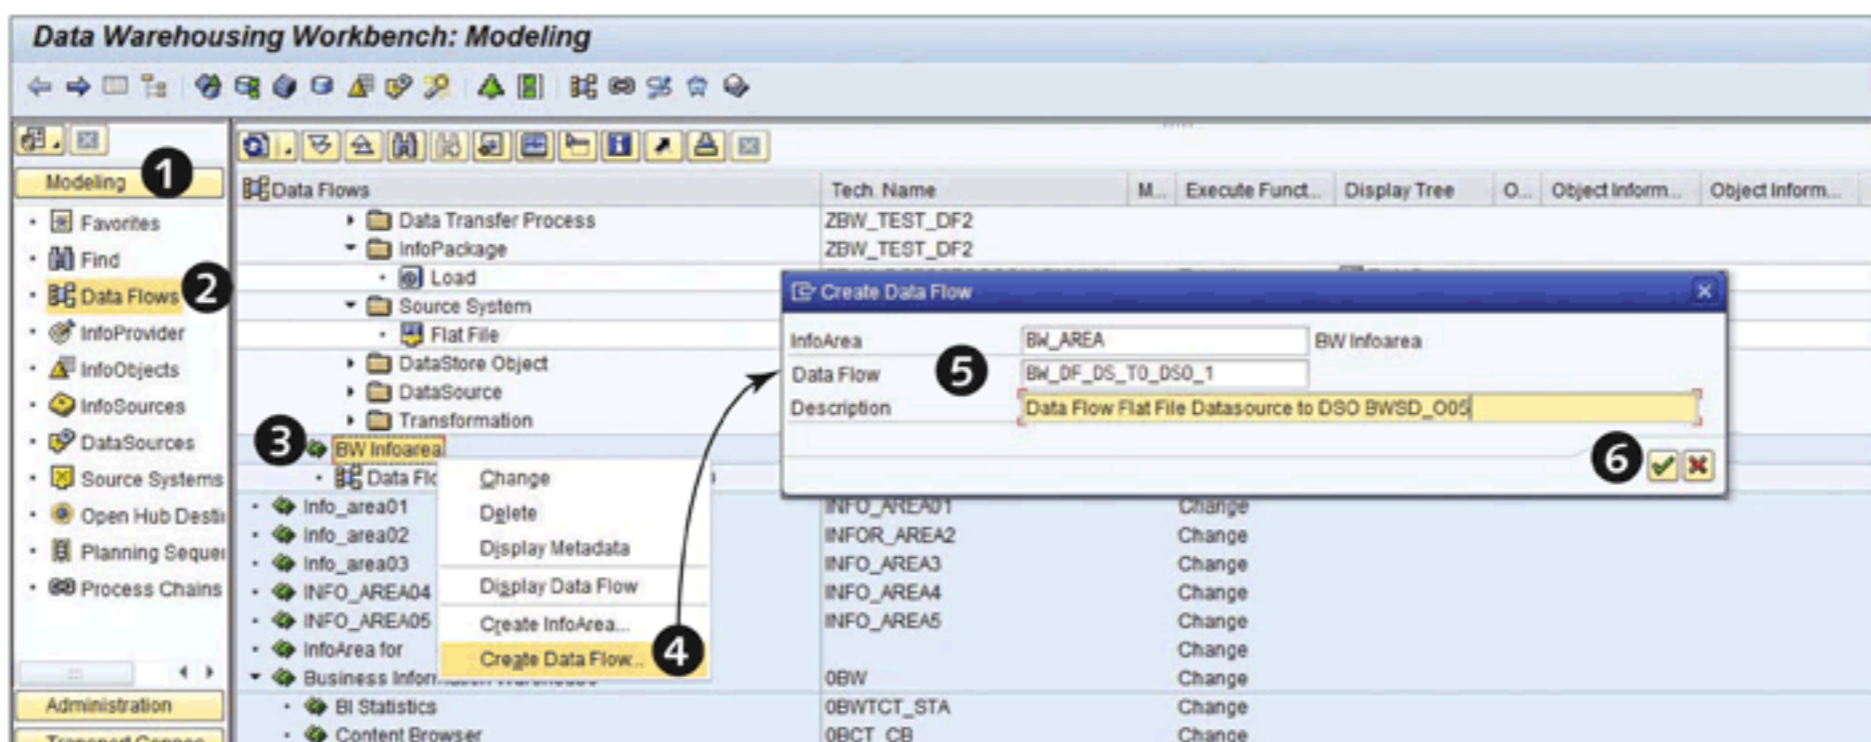
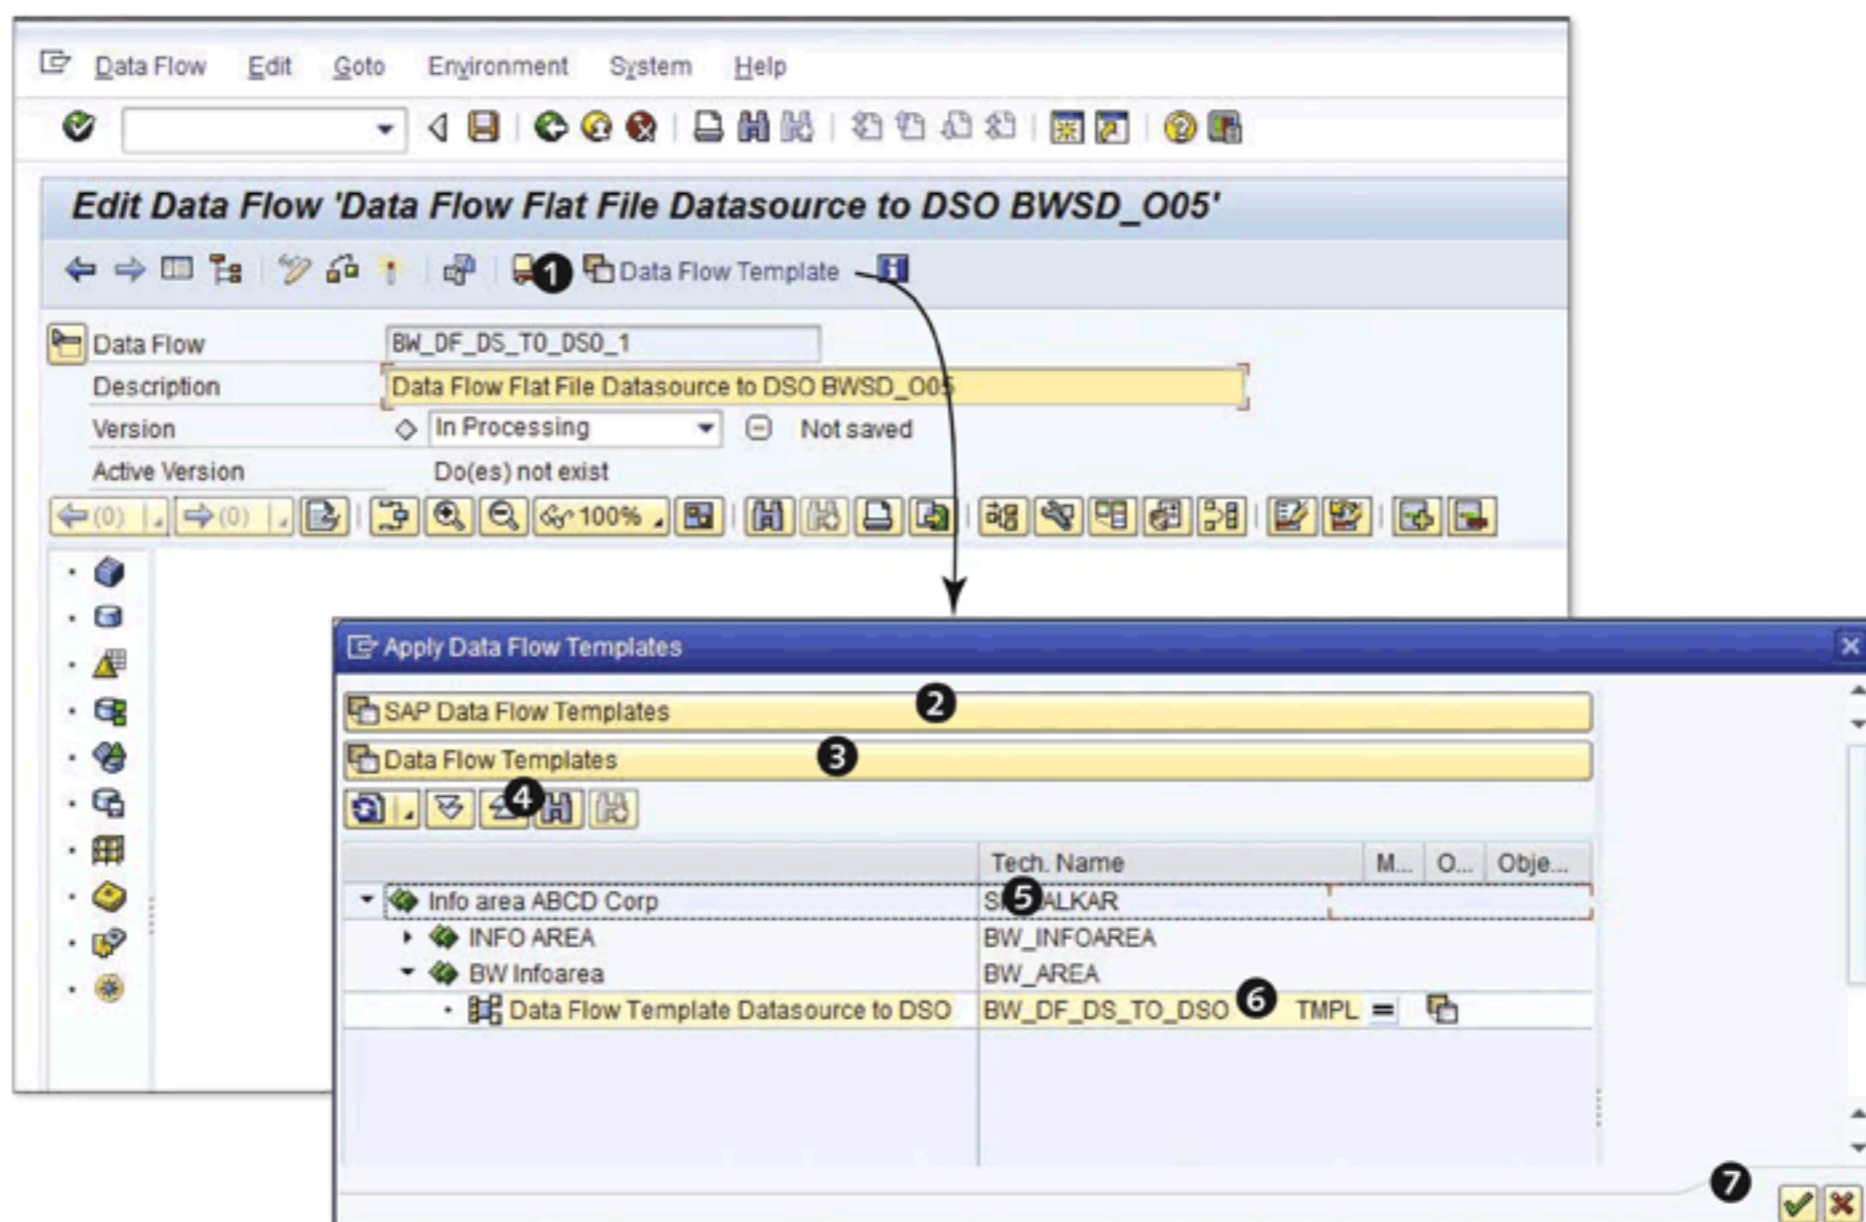
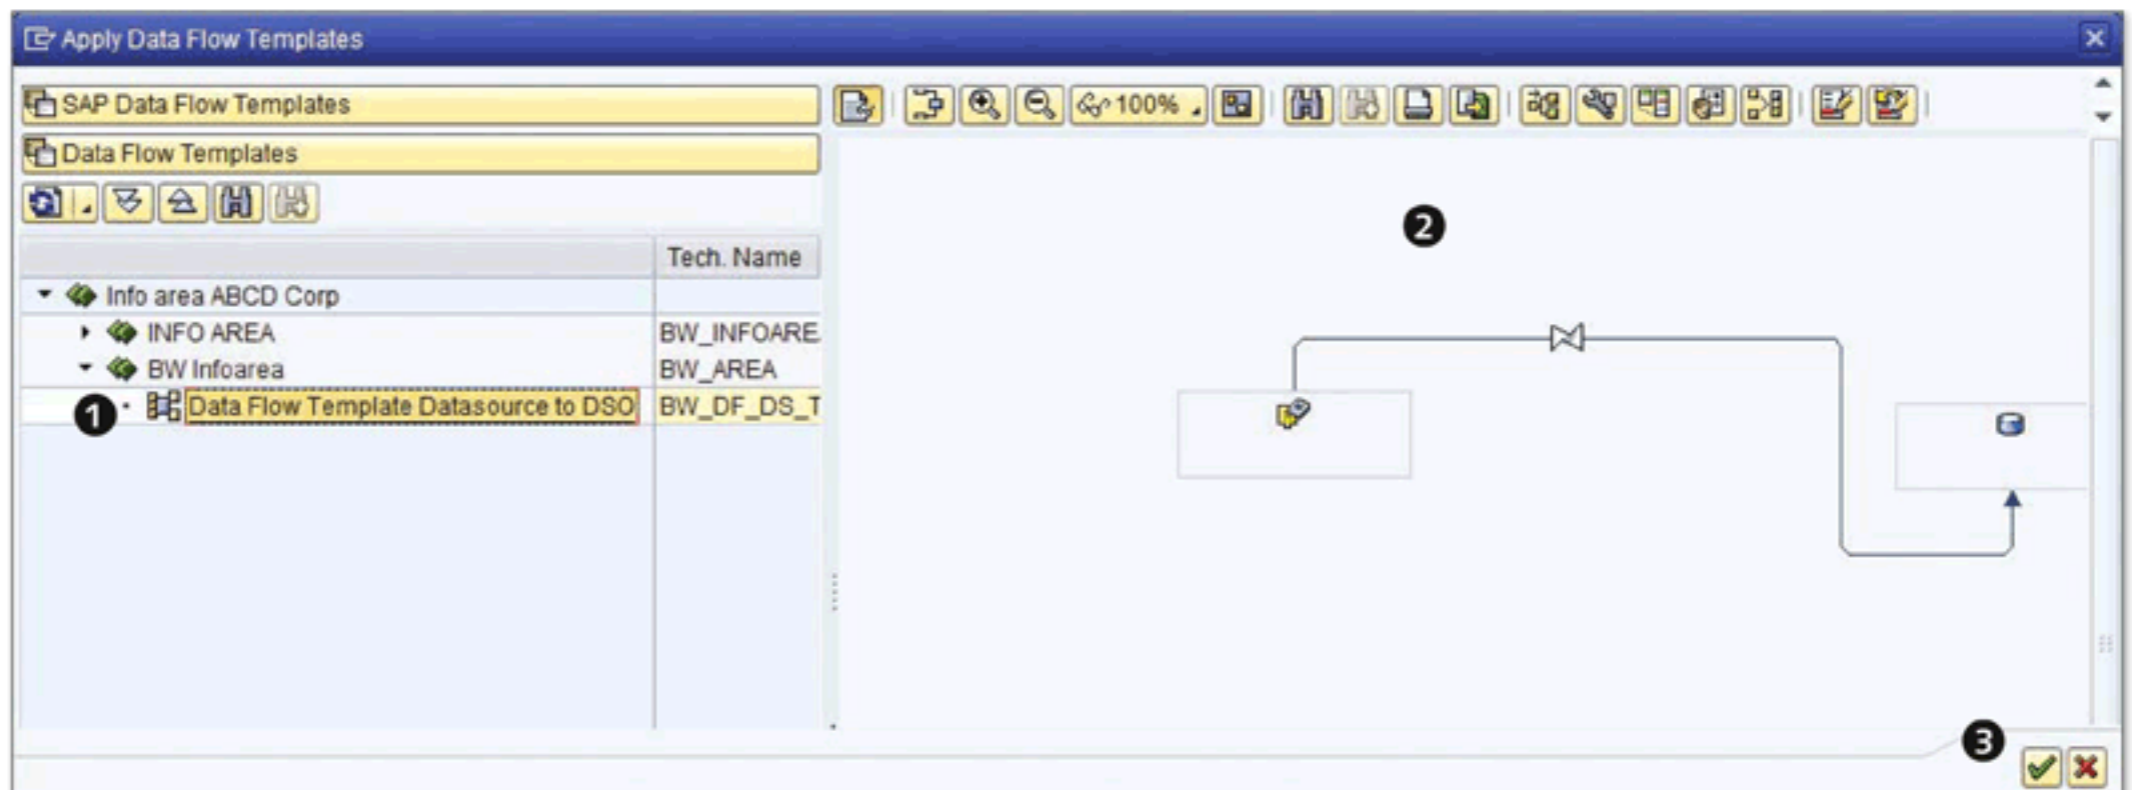

Figure 7.95 Create Data Flow
Figure 7.96 Apply DFT
Figure 7.97 Objects and Their Relationship
Now that we have created a data flow template, we can use that template to create a data flow. Start the DWW using Transaction RSA1. From MODELING (1 of Figure 7.95), select DATA FLOW (2 of Figure 7.95). On the right side panel, you can see the DATA FLOW and DATA FLOW TEMPLATE already available in the SAP NetWeaver BW system under their respective InfoAreas. Select InfoArea BW_AREA (3 of Figure 7.95), and, from the context menu, select CREATE DATA FLOW (4 of Figure 7.95). This shows the pop-up box CREATE DATA FLOW, as shown in 5 of Figure 7.95. Enter a technical name and description, as shown in Figure 7.95, and click OK (6) to proceed. This action brings up the EDIT DATA FLOW screen, as shown in Figure 7.96.
As you can see, the edit panel (right side panel) is initially blank. Click on the DATA FLOW TEMPLATE button (❶ of Figure 7.96), which brings up the APPLY DATA FLOW TEMPLATES screen. This pop-up displays three different sections; the first two (❷ and ❸) classify the template categories (SAP DATA FLOW TEMPLATES consists of SAP-provided templates, and DATA FLOW TEMPLATES consists of user-defined templates), and the third (DATA FLOWS, not shown on this screen) includes data flows.
For our scenario, click on the DATA FLOW TEMPLATE section, and select and expand InfoArea BW_AREA to reach the required DFT. You may use the SEARCH button available (❹ of Figure 7.96) to find the DFT we created earlier. Select BW_DF_DS_TO_DSO (❺ of Figure 7.96) and click on CONTINUE (❻ of Figure 7.96). This action displays the selected DFT definition on the right-hand panel, as shown in ❷ of Figure 7.97.
The selected template shows the objects included and their relationship, but does not yet bind the objects to persistent objects. Click on CONTINUE (❸ of Figure 7.97) to proceed.